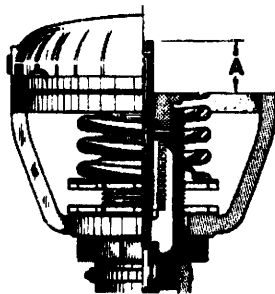

Figure 6 – SPRING ADJUSTMENT
11. With valve plug on seat (valve stem up) adjust stem, Figure 6, until dimension A is .781" (19.84 mm). After this adjustment is made, tighten packing nut so that bellows head is seated firmly against the bonnet shoulder.
12. With valve plug on seat (valve stem down), adjust stem until dimension A, Figure 6, from top of yoke to top of stem is .515" (13.08 mm). After this adjustment is made, tighten packing nut so that bellows head is seated firmly against the bonnet shoulder.